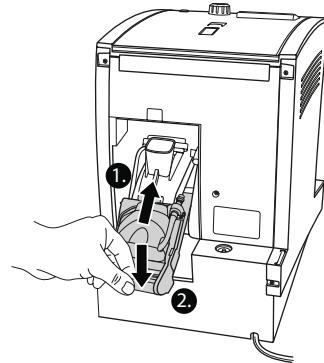

Fig. 14: Inserting the brewing unit
- 7. Insert the brewing unit into the machine from behind and push it in as far as it goes (Fig. 14).